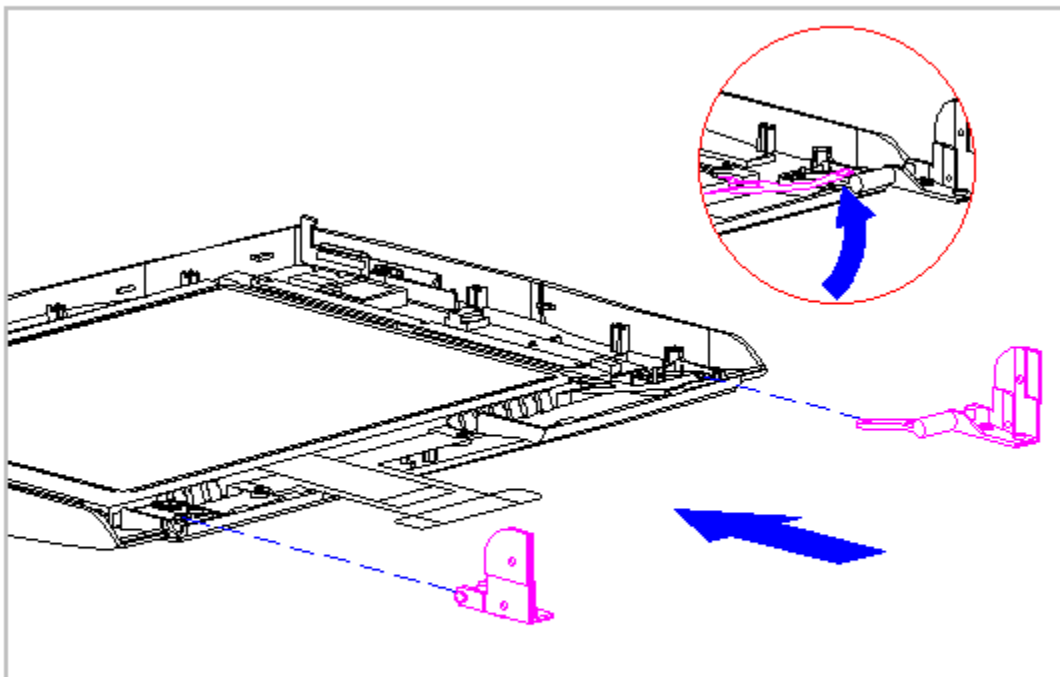

Figure 5-131. Replacing the Display Clutches
**IMPORTANT:** When replacing the display clutch screws, ensure proper alignment of the display clutches on either side of the display enclosure with the shield (Figure 5-131).